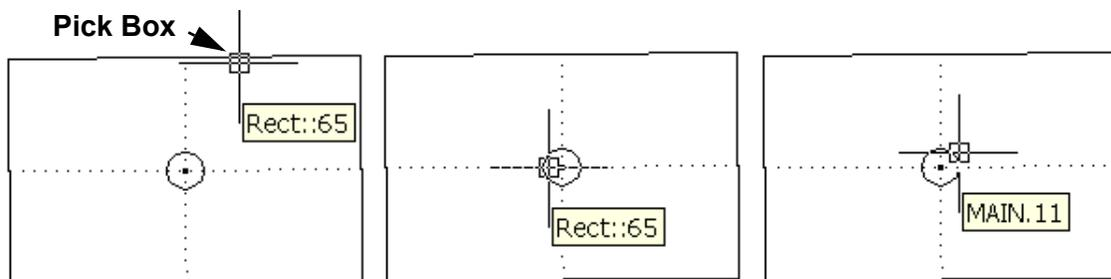

Figure 10-7 Getting Started - Selection
The cursor appears as crosshairs with a square box, called a *pick box*, in the middle of the cursor (Figure 10-7). When selecting an object, position the cursor over the object to be selected. The item positioned within the pick box is the object that will be selected when the mouse is clicked.
In the left-most graphic in Figure 10-7, the pick box includes the solid line of a rectangle. When the cursor is paused over an object, the tool tip associated with the object displays what is being selected. The tool tip shows the type of object, followed by an object identifier (format ::OBJECTID), which is unique for each object.
Still working with Figure 10-7, the cursor is positioned over the node which is located in the center of the rectangle. If the cursor is positioned over the node as shown in the center graphic, the tool tip still shows the rectangle as the object. This is because there are two items in the pick box—the dashed lines of the rectangle, and the solid circles from the node. The user has limited control over what will be selected in this instance; however, there are two methods to assist in choosing the node:
- Method 1: The easiest method is to move the cursor so that only the node is in the pick box, as shown in the example on the farthest right of Figure 10-7.